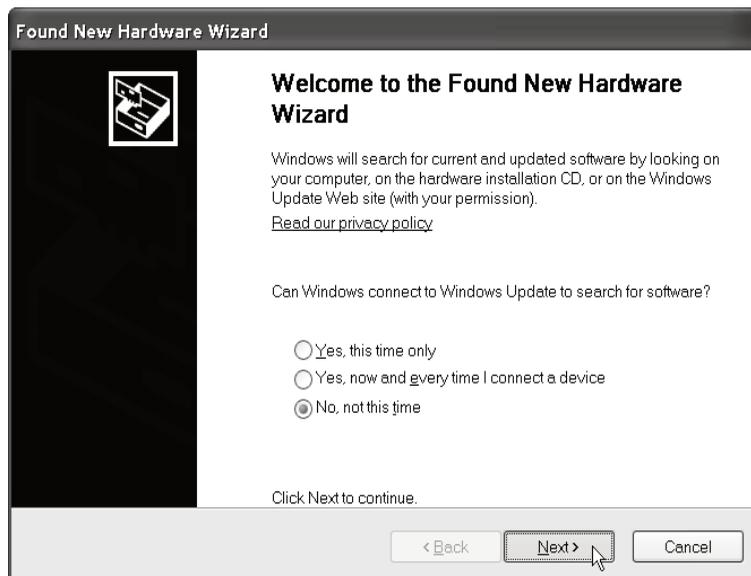

Figure 4.10
10. Select **No, not this time** and click **Next**. (Figure 4.10)